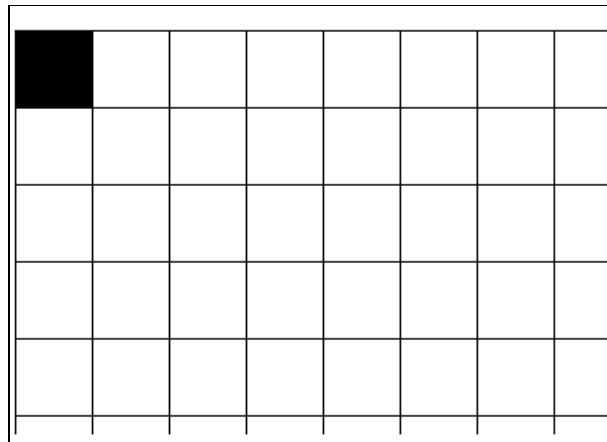

Figure 2-16. ProPalette test image
4. Press the Select key to begin the test exposure cycle and look at the CRT through the camera opening. You will see a row of red spots moving down the screen, and a horizontal line flashing intermittently. Then this cycle will repeat through the green and blue filters. (Figure 2-16 shows the image this pattern would create on film.)